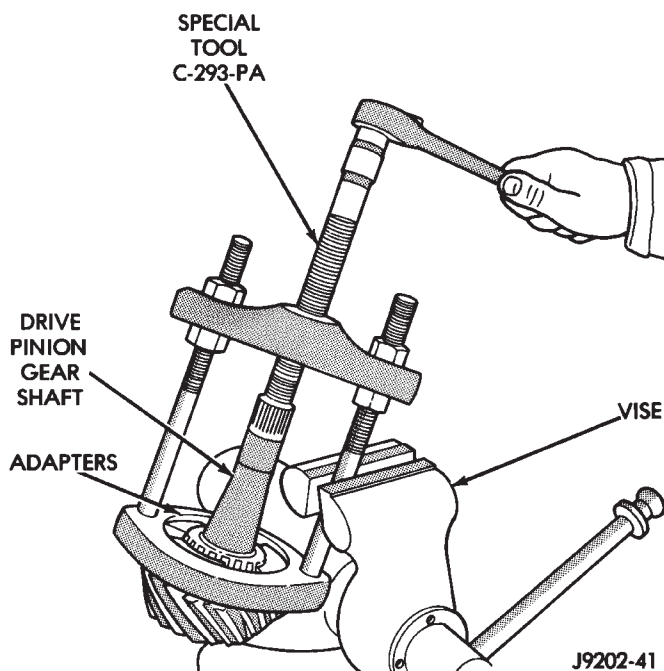

Fig. 24 Inner Bearing Removal
(13) Remove the rear bearing from the pinion with Puller/Press C-293-PA and Adapters C-293-37 (Fig. 24).